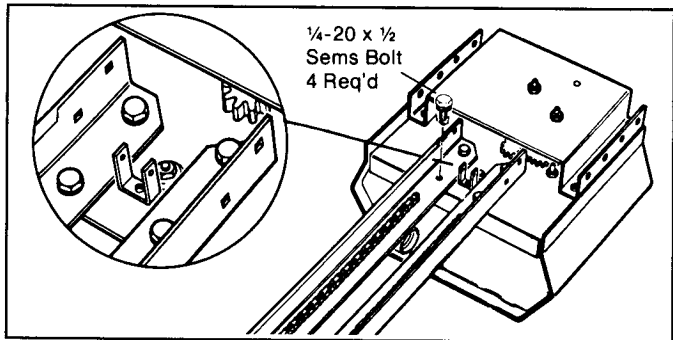

Figure 2. Head Channel Assembly.
See Figure 2, Step 2, Page 5.
Step 2: Place the operator head on the garage floor and secure the channel assembly to the head by four 1/4-20 x 1/2 sems bolts. Do not tighten at this point. (See Figure 2.)